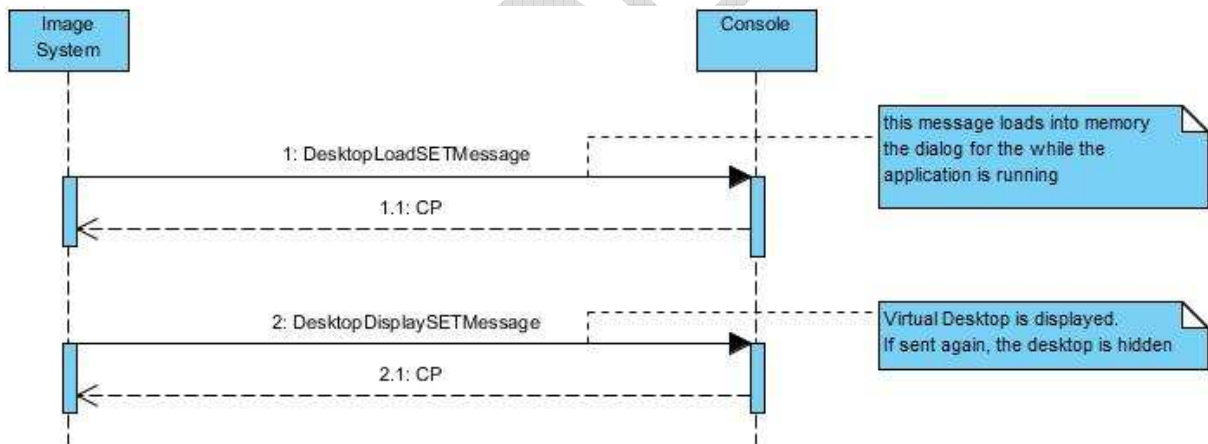

Figure 29 Load and display virtual desktops
- display desktop: as many times as the image preview functionality is needed. See Figure 29 Load and display virtual desktops.